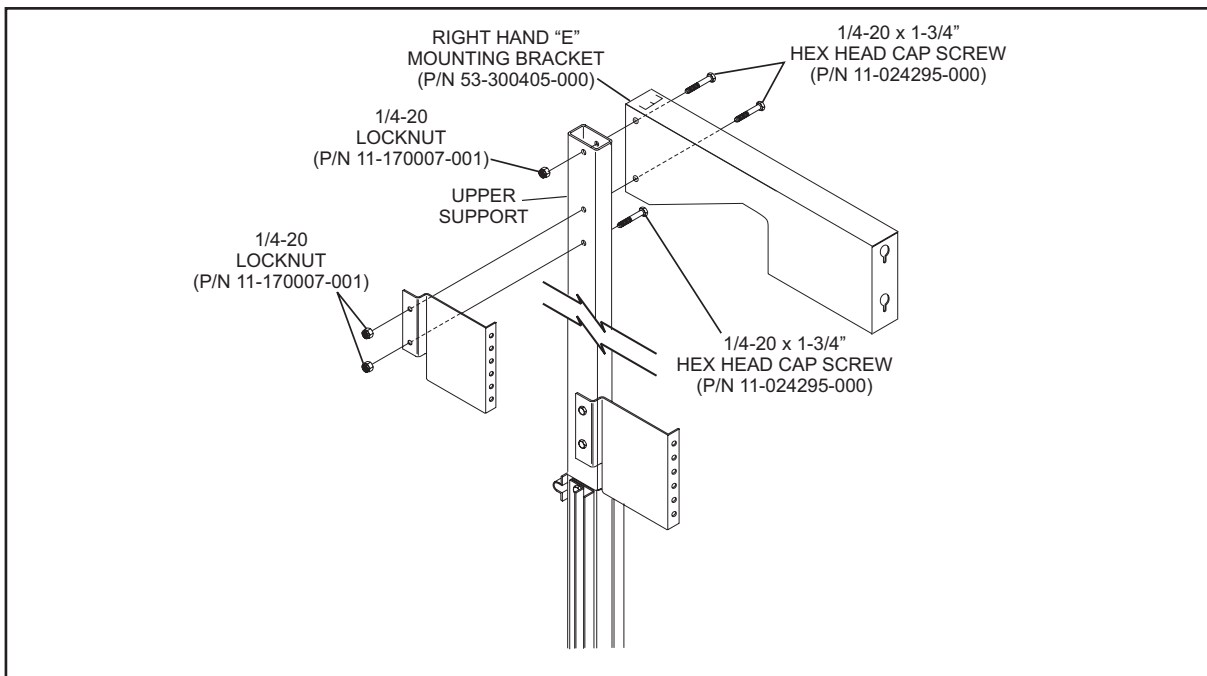

Figure 25
1. Install the last support assembly “E” projection screen mounting bracket and upper graphic standoff. Refer to *Figure 25*.